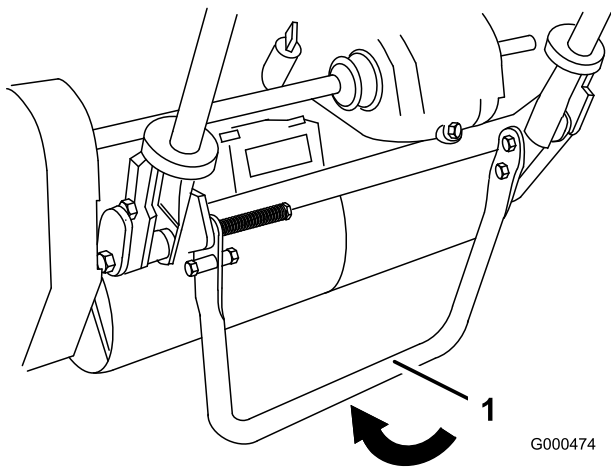

Figure 9
1. Push kick stand down with foot and pull up on handle support until kick stand has rotated forward, over center (Figure 9).